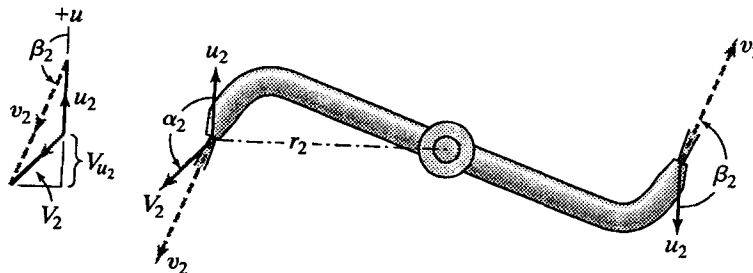

Figure. 6.14
6.46 Given a lawn sprinkler such as that in Fig. 6.14 with $\beta_2 = 160^\circ$, in which the total area of the jets at a radius of 15 in is 0.0008 ft^2 . When $h = 144 \text{ ft}$, compute the rate of discharge, the torque exerted by the water, and the power developed if the rotative speed of the sprinkler is 400 rpm. Neglect fluid friction, but note that the calculated torque must overcome mechanical friction and air resistance.